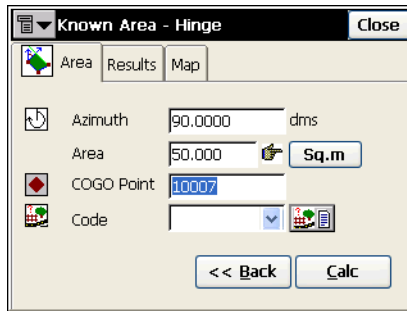

Figure 7-37. Known Area - Hinge – Area Tab 2
- **Next**: opens the second screen under *Area* tab (Figure 7-37 on page 7-29).